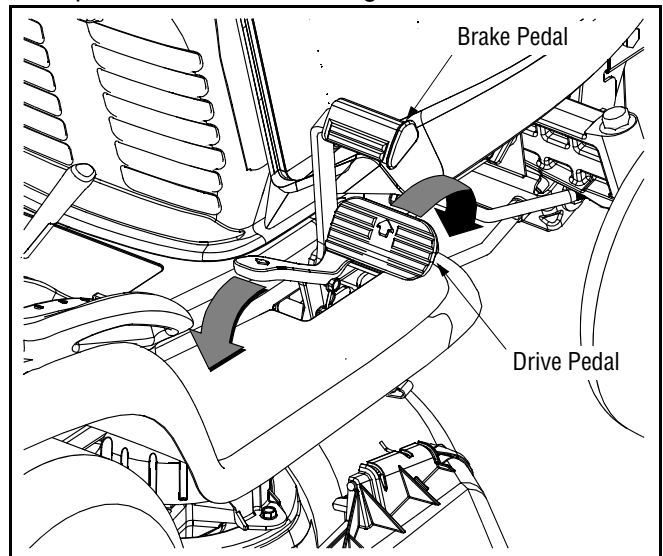

Figure 11
- To travel FORWARD, slowly press the upper portion of the drive pedal forward until the desired speed is achieved. See Figure 11.
- To travel in REVERSE, check that the area behind is clear then slowly press the lower portion of the drive pedal with the ball of your foot (NOT your heel) until the desired speed is achieved. See Figure 11.